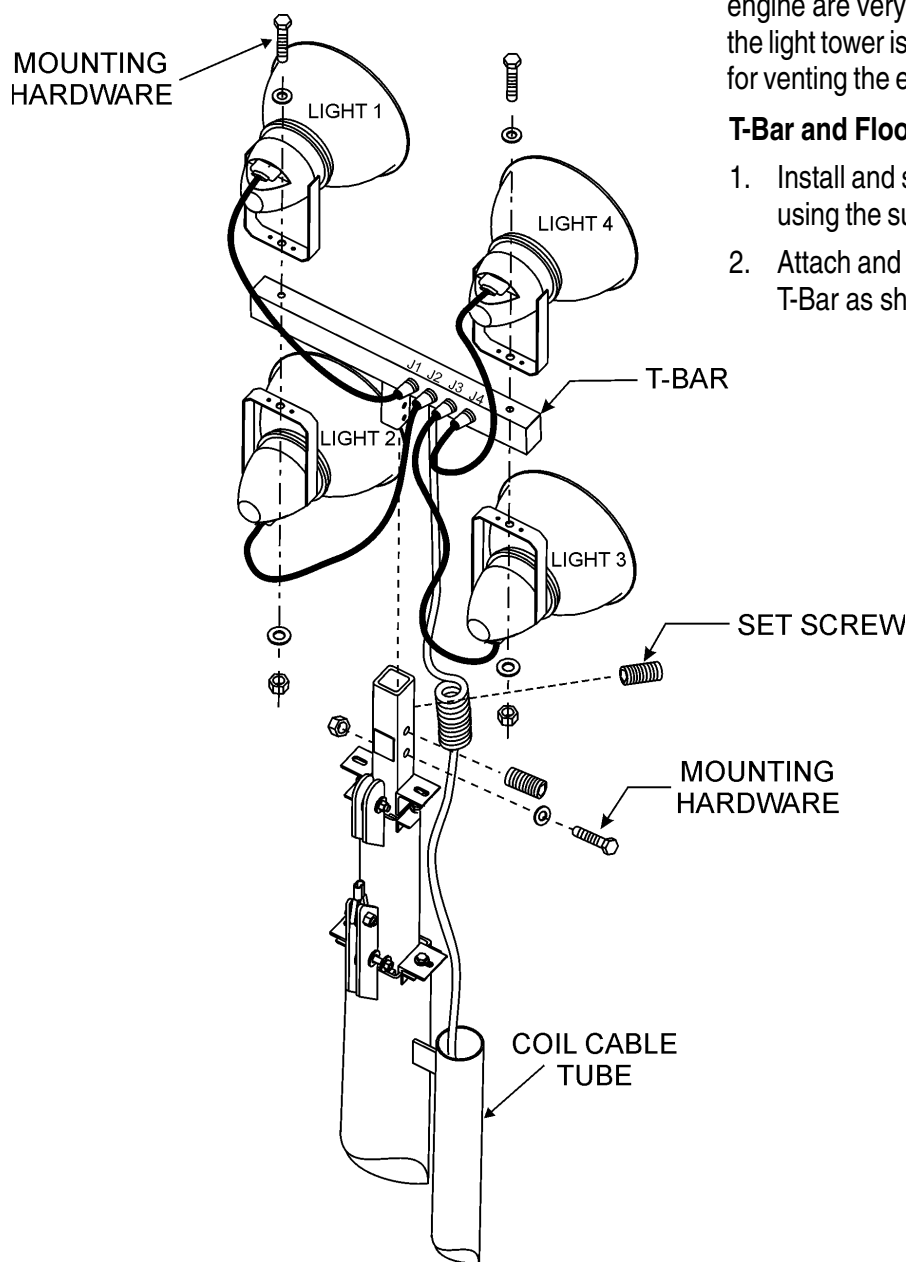

Figure 13. T-Bar Assembly
2. Attach and secure the four flood light assemblies to the T-Bar as shown in Figure 13.